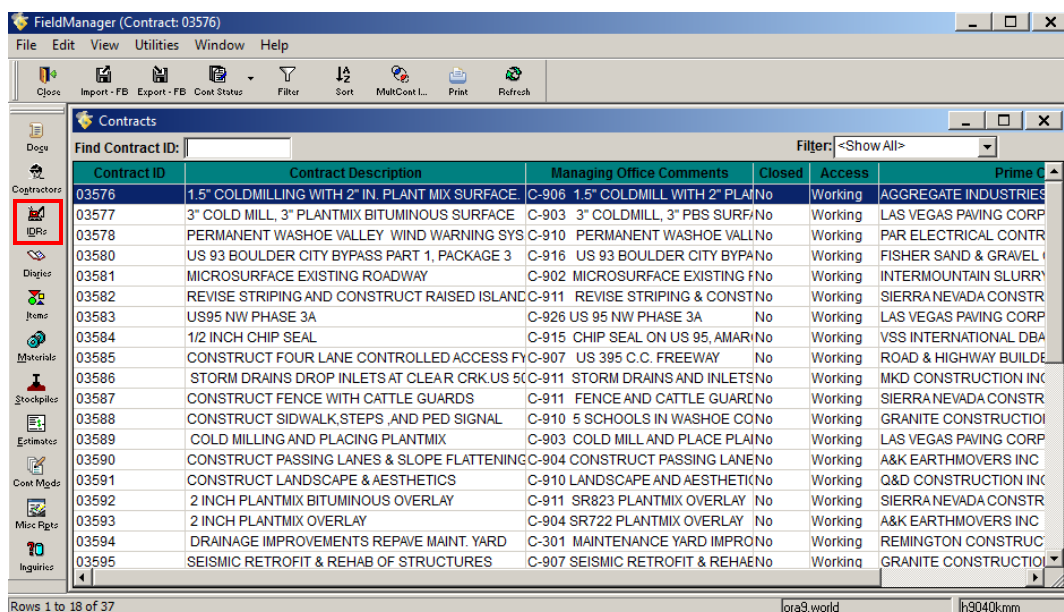
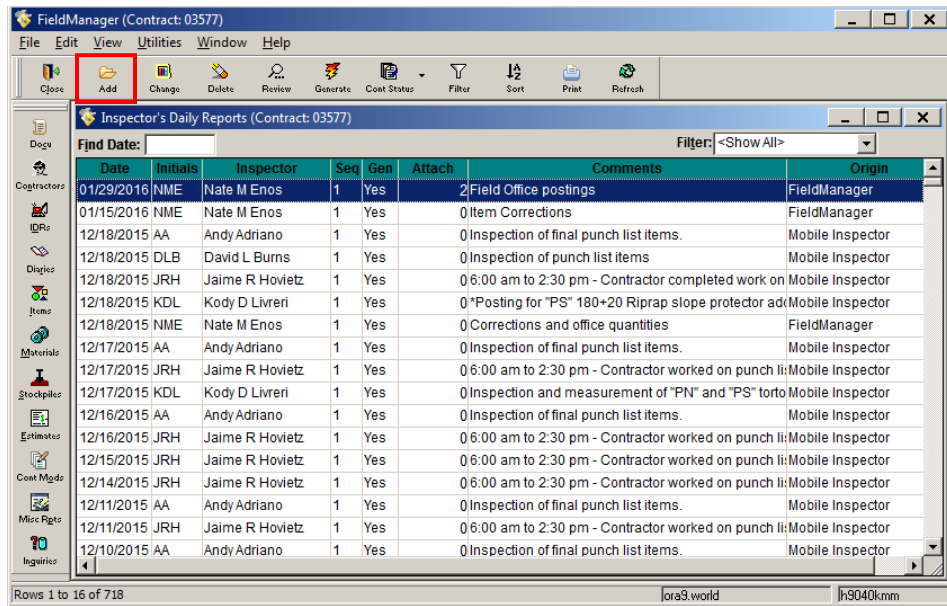
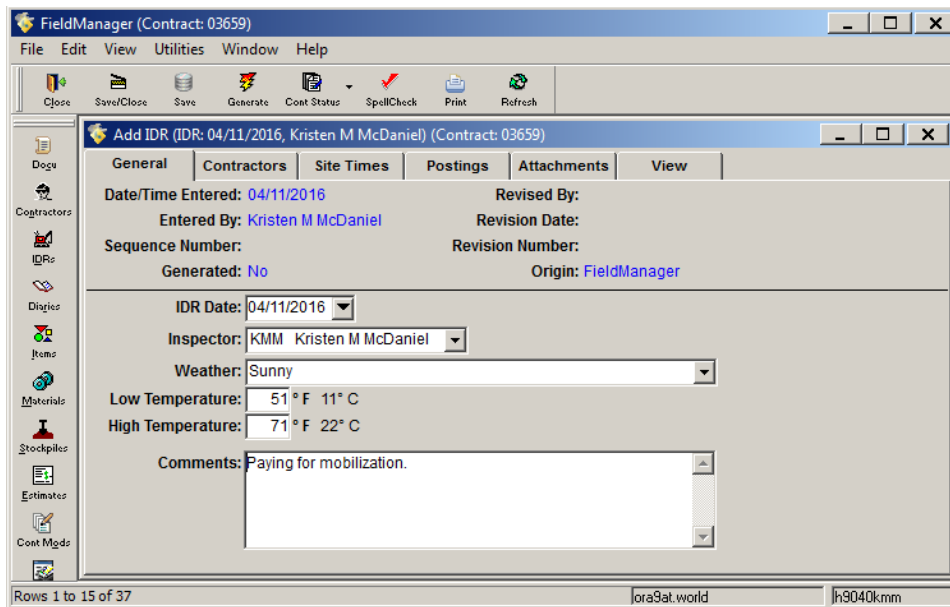

Figure 7-1 - FieldManager Contracts List Window
Figure 7-2. Inspector's Daily Reports List Window
Figure 7-3. Add IDR – General Tab
Log into FieldManager through Citrix (for more information on logging on to FieldManager, see Chapter/Section 2.1 in this user guide). This will open the Contracts list window (Figure 7-1).
1. Select desired contract in the Contracts list window and click **IDRs** on the Application Toolbar (Figure 7-1). The Inspector's Daily Reports (IDRs) list window opens (Figure 7-2).
- Click **Add** on the Window Toolbar (Figure 7-2). The Add IDR window opens with the General tab displayed (Figure 7-3).